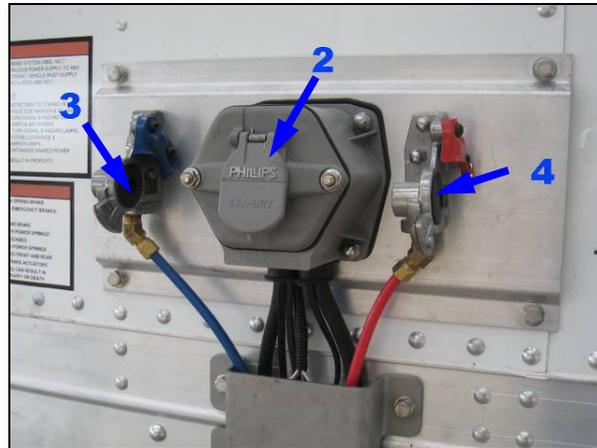

Figure 3-6 - Connect 7-Pin Connector And Air Hoses
13. Connect the 7-pin electrical cable from the truck to connector (2), service hose to glad hand (3) and supply hose to glad hand (4). See figure 3-6.